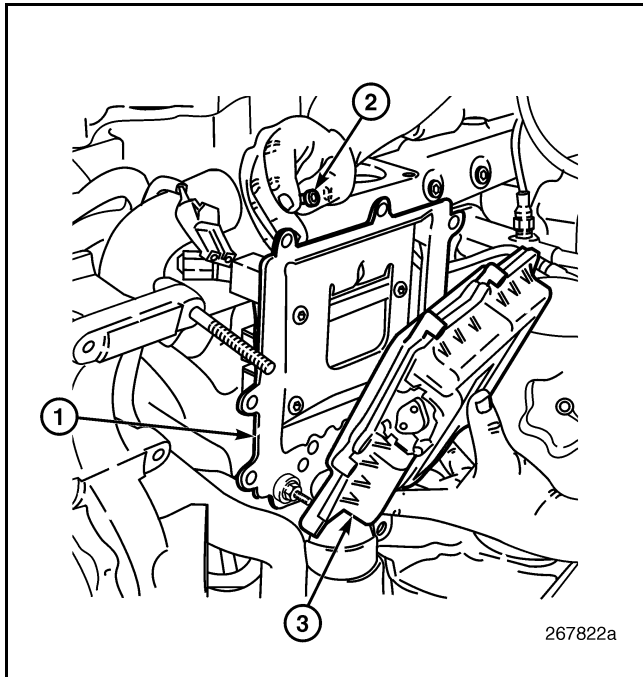

Figure 462 — EECU Removal/Installation
5. Carefully remove the EECU from the cooling plate (Figure 462). The cooling plate can remain attached to the inlet and coolant manifolds providing the plate is not being replaced. If the plate is to be replaced, continue on with the next step.
- Make sure the cooling plate and EECU mating surfaces are clean. Place the EECU in position on the cooling plate and install the eight retaining bolts. Tighten the bolts to specification (Figure 462).